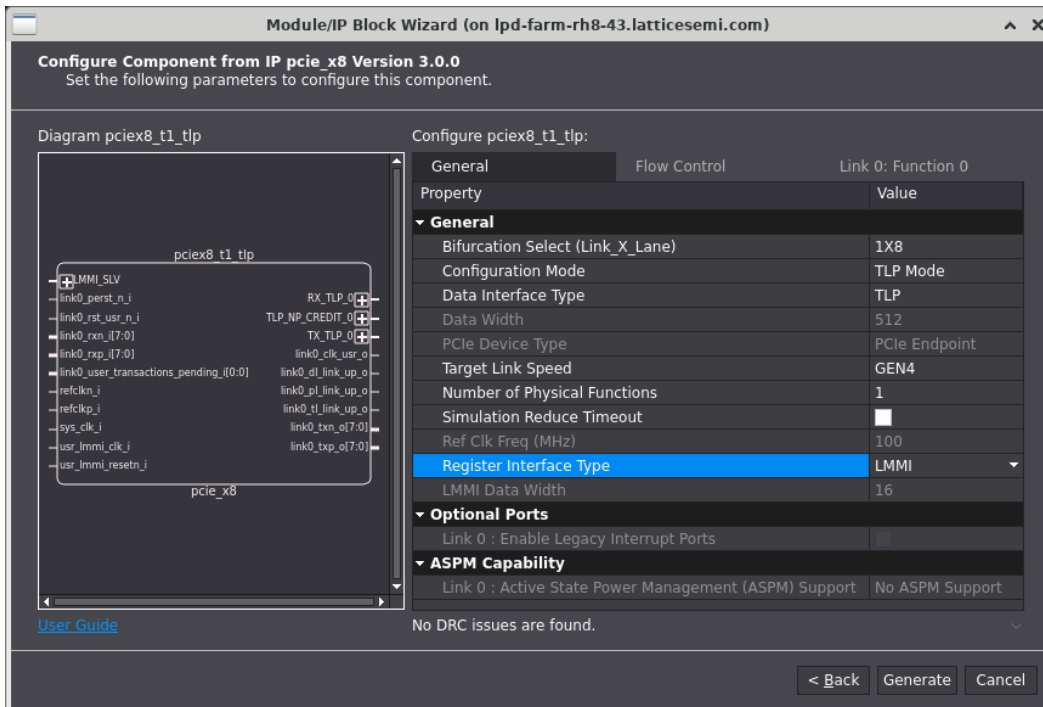
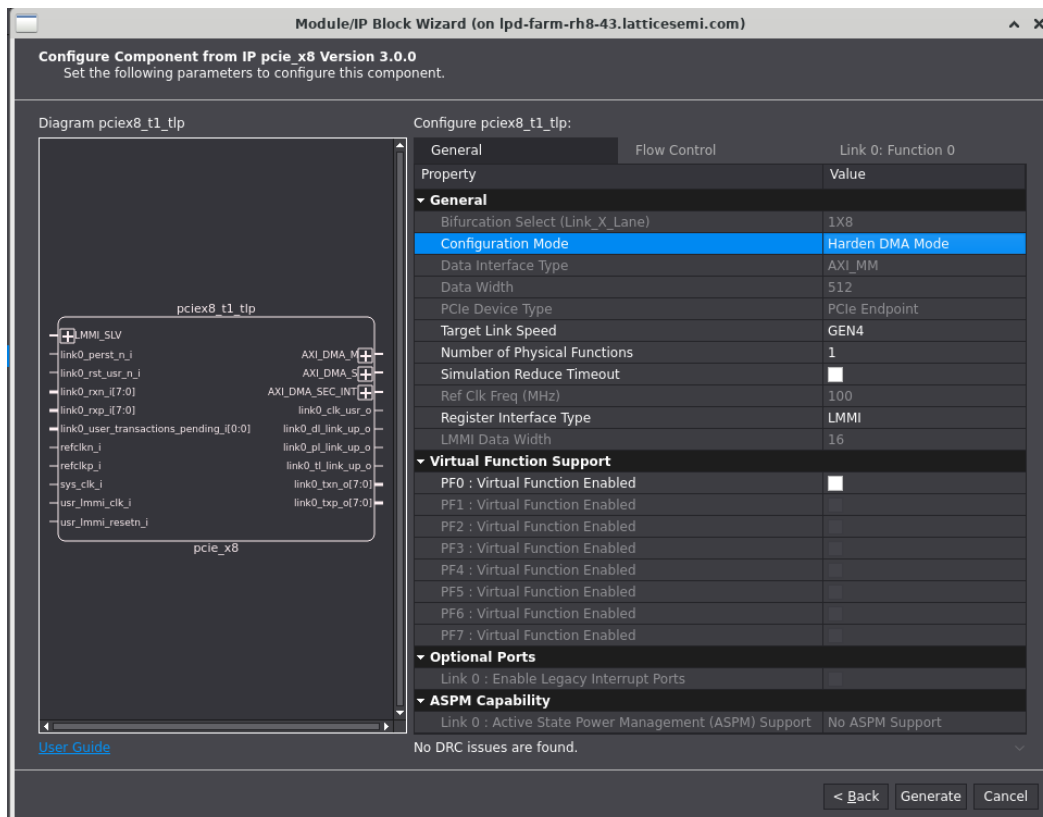
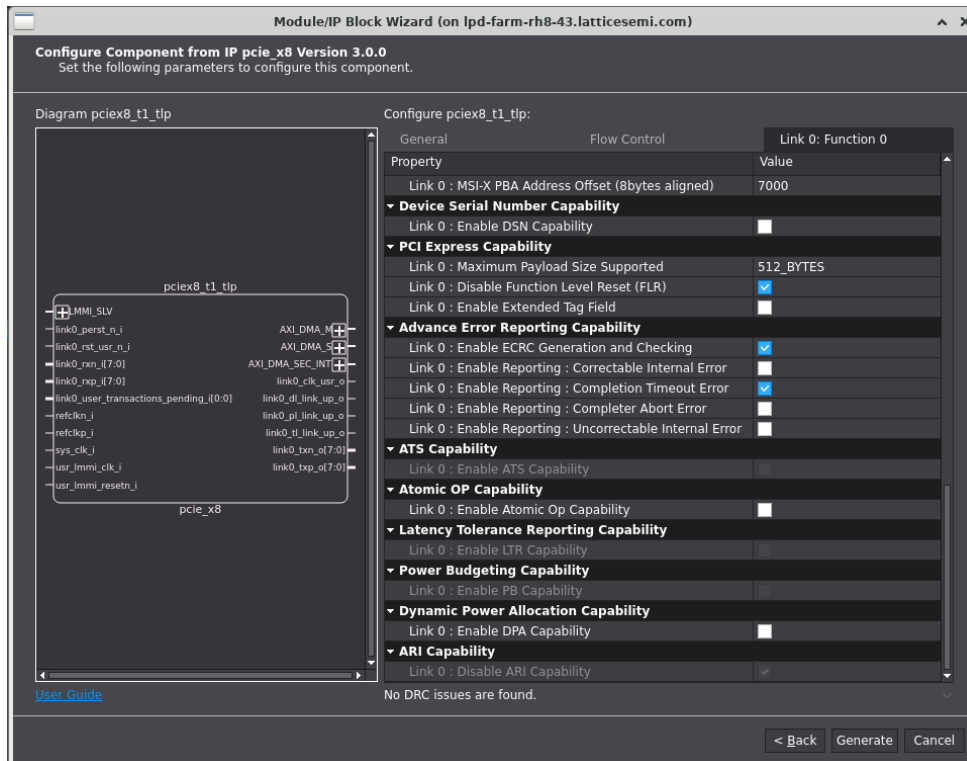

Figure 7.2. IP Configuration for TLP Mode with TLP Data Interface
Figure 7.3. IP Configuration for Hardened DMA (General Tab)
Figure 7.6. IP Configuration for Hardened DMA (Link 0: Function 0 Tab) Part 3
3. In the next **Module/IP Block Wizard** window, customize the selected PCIe x8 IP using drop-down lists and check boxes. Figure 7.2 shows an example configuration of the TLP mode with TLP data interface for PCIe x8 IP. For the hardened DMA example design support, Figure 7.3 to Figure 7.6 show the example configuration of the hardened DMA PCIe x8 IP. For details on the configuration options, refer to the IP Parameter Description section.